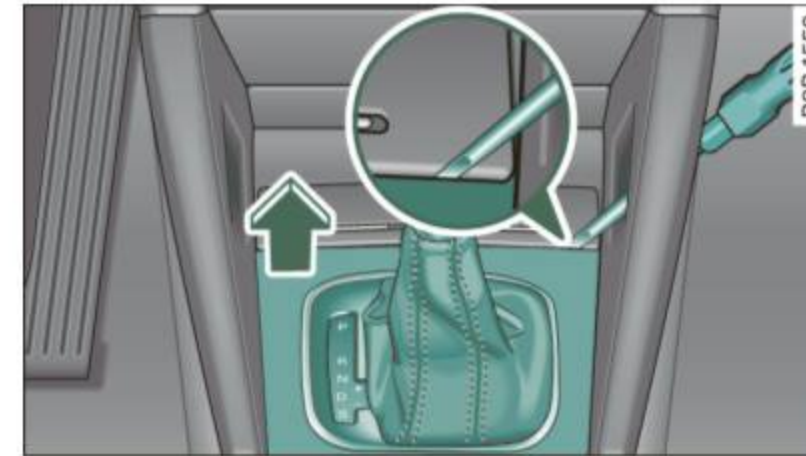

Fig. 120 Selector lever: Remove selector lever sleeve
- Carefully pry the cover out with the screwdriver and pull it ⇒ *page 121*, fig. 120 toward the shifter knob in the direction of the arrow. The screwdriver must grip at the lower edge of the cover to loosen it.